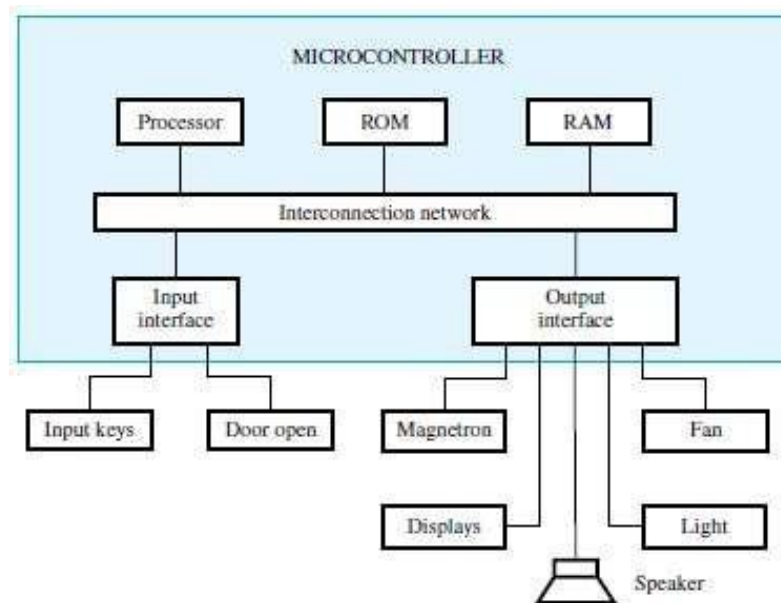

Figure 10.1 A block diagram of a microwave oven.
- **Non-volatile ROM** is used to store the program required to implement the desired actions. So, the program will not be lost when the power is turned off (Figure 10.1).